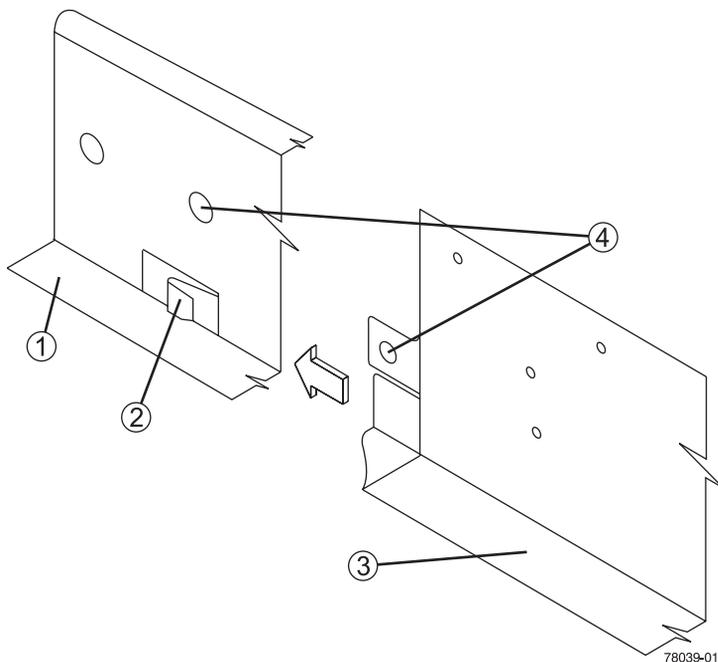

Figure 1-21 Sliding the RAID/Disk Enclosure into the Rail's Rear Clip
Finish the installation of the rails and install the RAID/disk enclosure using the following steps and Figure 1-21 on page 25.
Note: The holes in the disk enclosure sheet metal for the rear hold-down screws should align with the captured nuts in the side of the support rails as in item 4 of Figure 1-21.